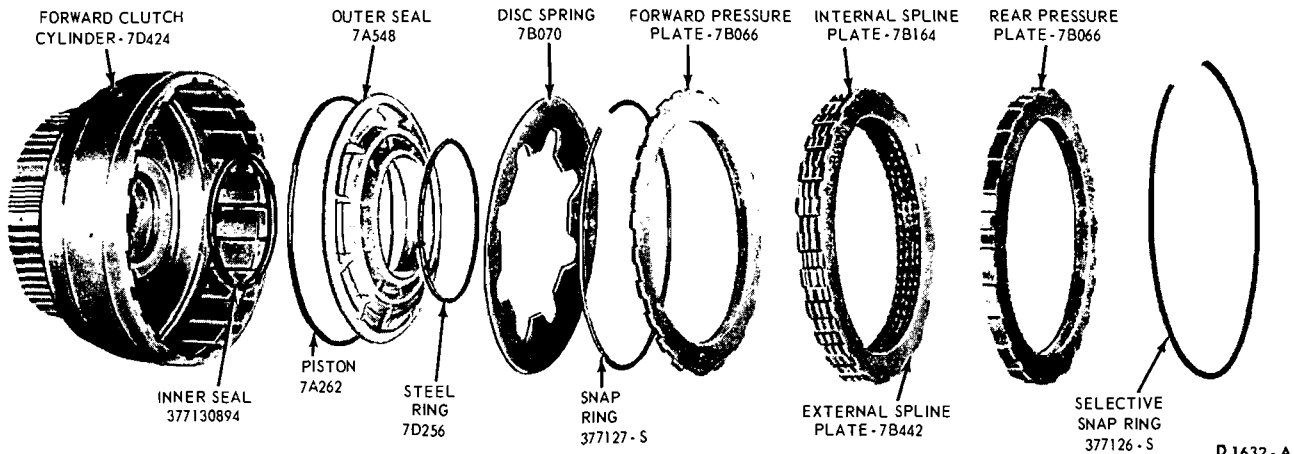

FIG. 58—Forward Clutch Disassembled
2. Remove the rear pressure plate, the drive and driven plates and the forward pressure plate from the clutch hub (Fig. 58).
5. Remove the seal from the piston and the seal from the clutch hub (Fig. 58).
4. Install the forward pressure plate with the flat side up and the beveled side downward. Install first a composition driven plate and a steel drive plate. Install the remaining plates in this sequence. The last plate installed will be the rear pressure plate with the internal chamfered side facing up (Fig. 58). Install the snap ring and make certain that it seats fully in the groove.